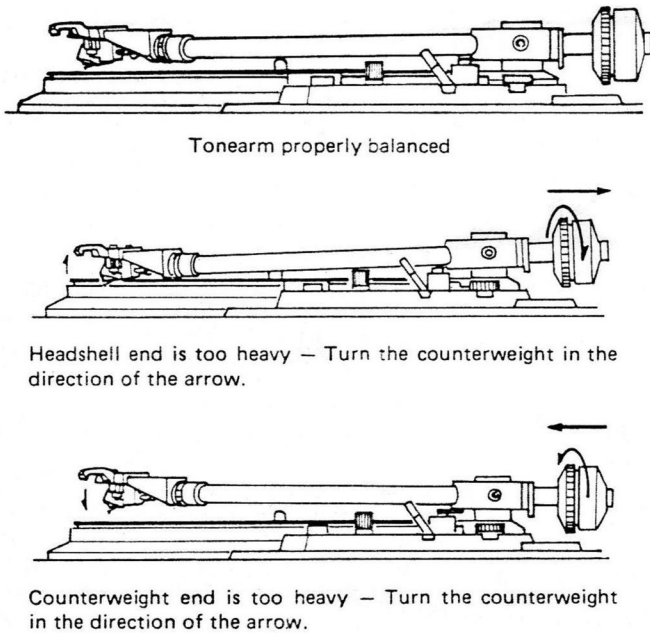

Fig. 7
5. Support the headshell's finger lift with one hand and attain the level balance by turning the counterweight either clockwise or counterclockwise. "Level balance" means that the tonearm is parallel to the record on the platter, and that the tonearm pipe, therefore, should not tilt toward the counterweight side or the headshell side (See Fig. 7).